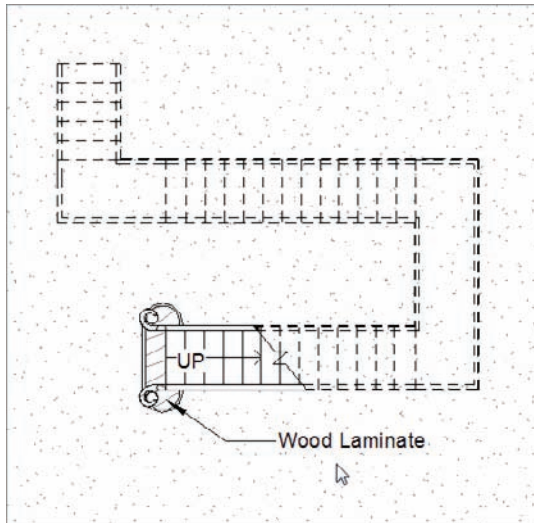

FIGURE 11.99 Placing the material keynote
14. Place the keynote as shown in Figure 11.99.